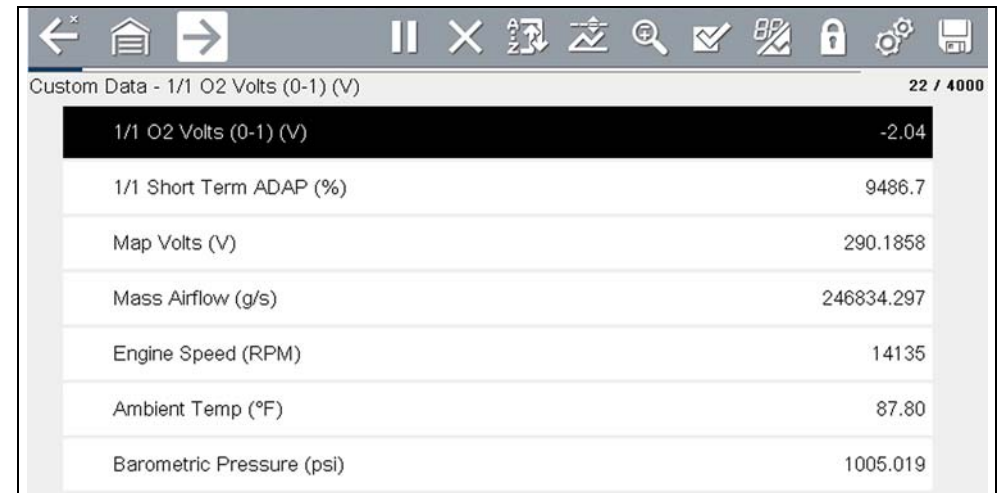

Figure 6-21
4. The custom list displays (Figure 6-21).